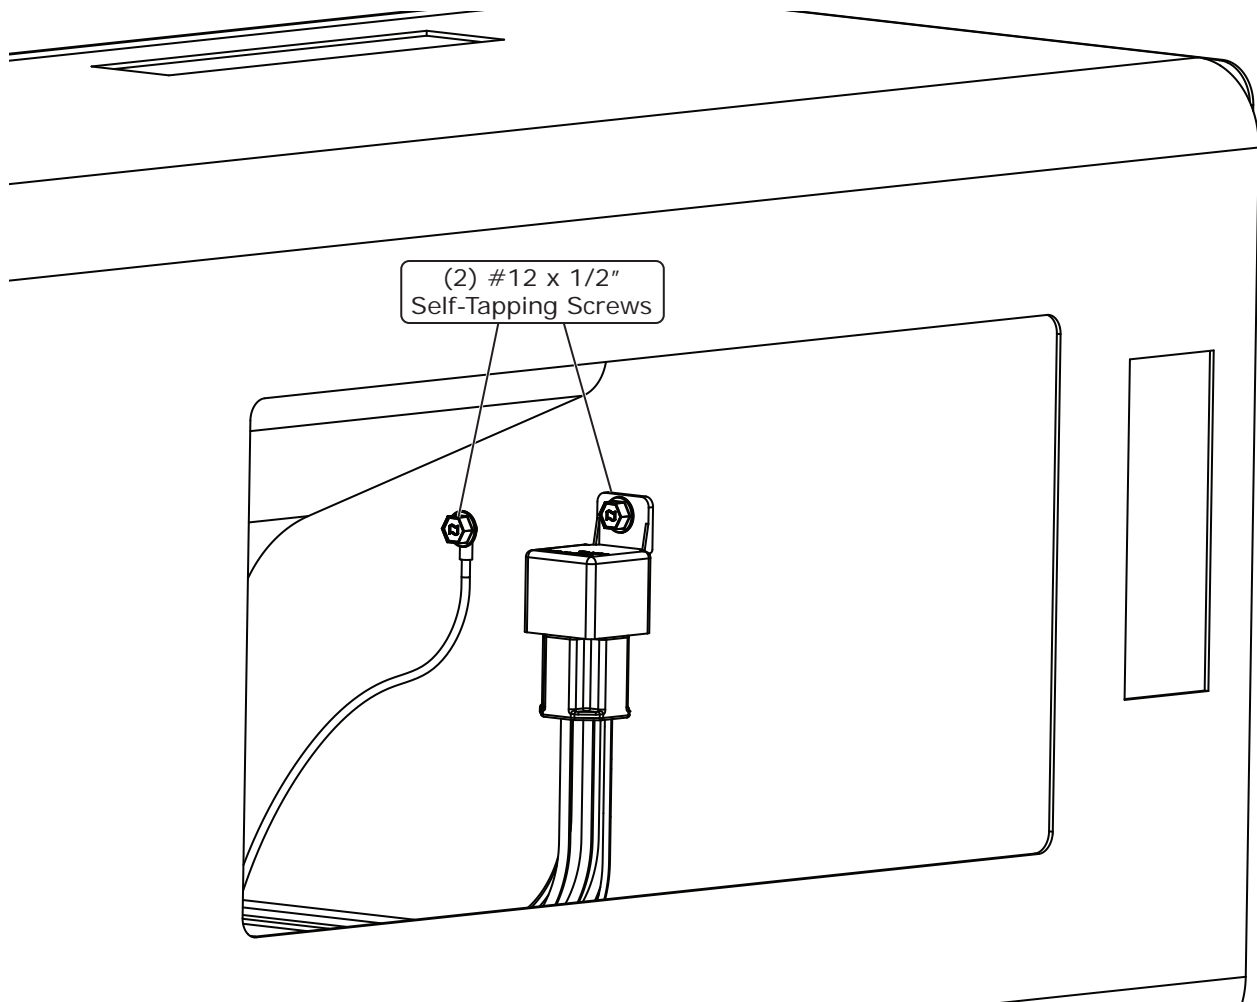

Figure 1
2. Secure the relay to the kick panel using (2) #12 x 1/2" self-tapping screws as shown in Figure 1, below.